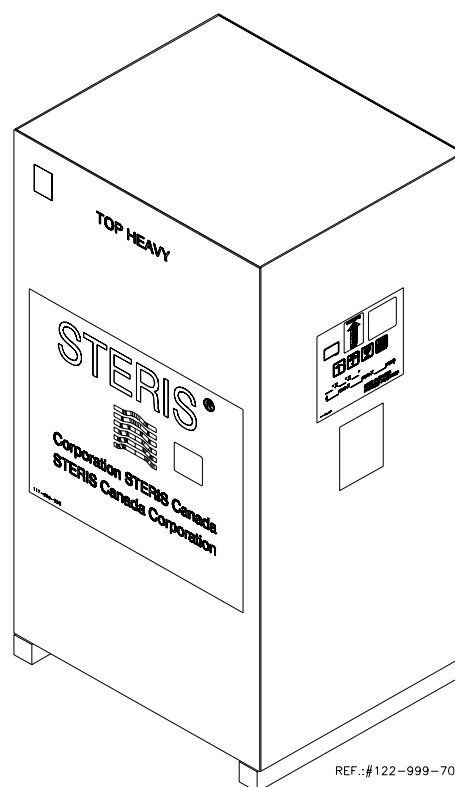

Figure 2-2. Crate (International units)
1. Check Tip Indicator, located on upper left side of crate (see Figure 2-2). Tip Indicator contains a blue compound at the bottom of the indicator. If unit has been tipped, residue from the blue compound will be found higher up in the indicator.